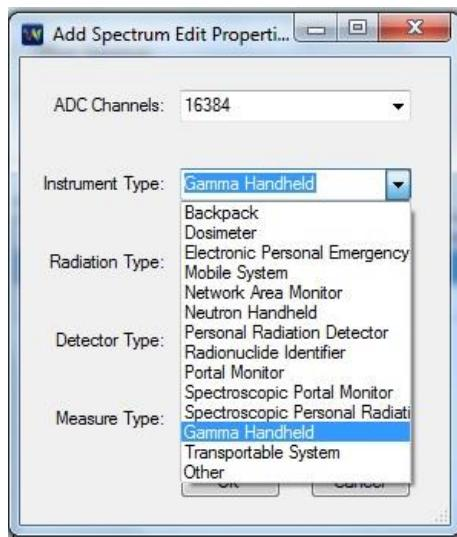
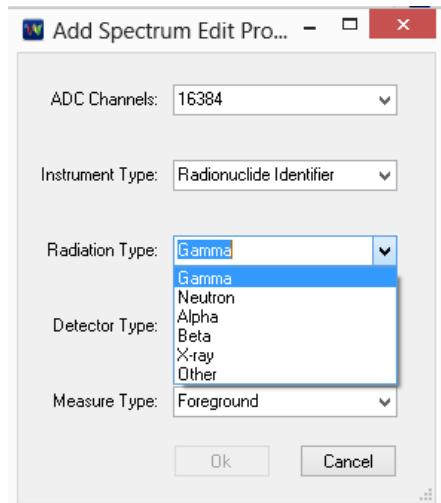

Fig. 4.7: MC²Analyzer Wizard Dialog Box – “File/Add Spectrum/EditProperties” Dialog Box - Instrument Type Pull Down Menu
Fig. 4.8: MC²Analyzer Wizard Dialog Box – “File/Add Spectrum/EditProperties” Dialog Box - Radiation Type Pull Down Menu
- **Initial Spectrum**, that allows to upload an initial spectrum to be added to the online spectrum. The “...” button allows to browse a spectrum to be loaded. The button “Edit” allows to modify the spectrum properties. See Fig. 4.7 and Fig. 4.8;
The user can tag the spectrum files by left clicking on the “Edit” key of the corresponding channel line. The **Add Spectrum Edit Properties** Dialog Box will appear as in Fig. 4.7. The five Pull Down menus allow the user to indicate:
From the **Detector Pull Down Menu** (See Fig. 4.8) the user can associate to the recorded file the type of Detector that was used to execute the measurement.